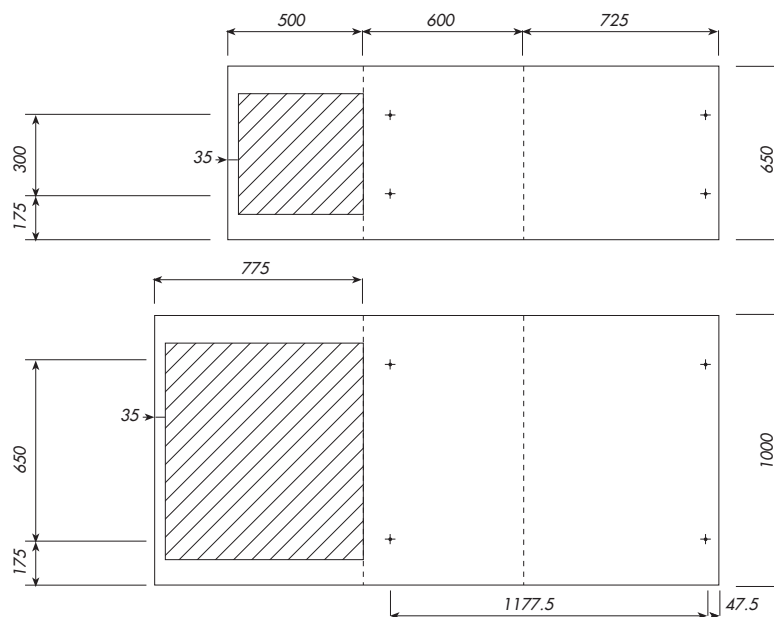

Figure 2.5 Floor fixing dimensions
**Cubicles are secured to the pallets through the floor fixing holes (refer to figure 2.5). The securing bolts must be removed before attempting to remove the cubicle from the pallet.**
Figure 2.5 shows the standard floor fixing dimensions.